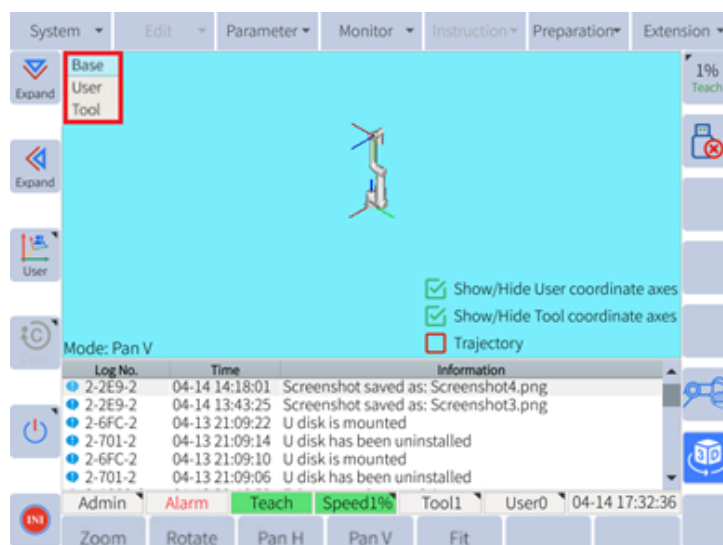

Figure 6-20: Coordinates
2.1.1 After entering the display, the user can select the base coordinate, user coordinate and tool coordinate in the top left corner, as shown in **figure 6-20**: